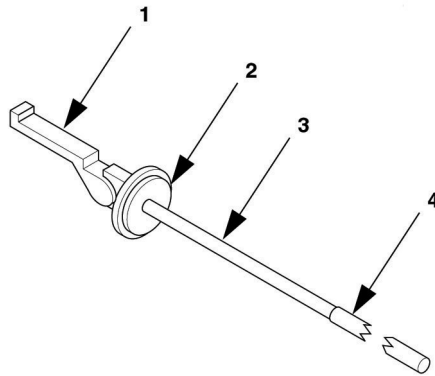

Figure 2-22. Auxiliary Fuel Source (Typical).
- b. Disconnect auxiliary fuel hose from fitting on container adapter (2, figure 2-22).
- d. Remove extension pipe (4), pipe (3), adapter (2), and strainer clamp (1) and store in the accessory box.